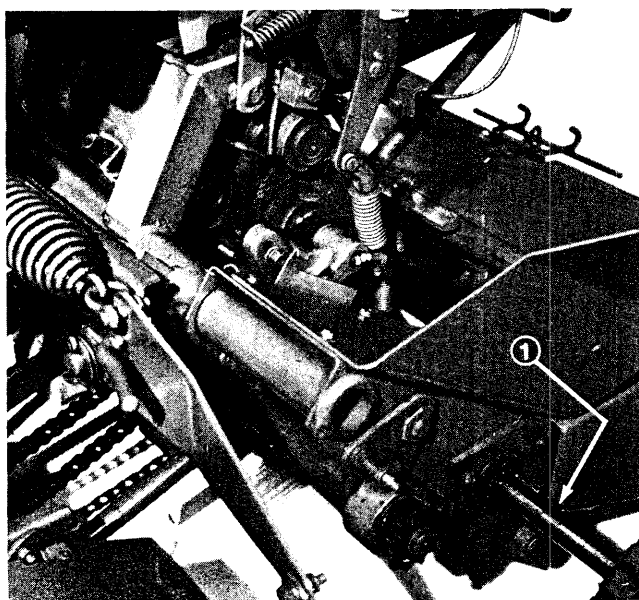
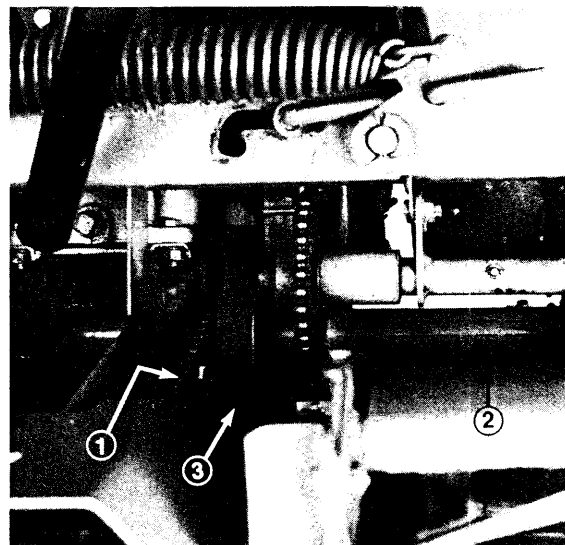

Figure 41
Figure 42
6. Pull left wheel, hub, differential and axle out (Fig. 41). Keep track of spacer washers used at each end of reel drive countershaft so exact quantities are used at each end when unit is re-assembled (Fig. 42).
7. Disconnect front cutting unit drive chain, remove and replace cutting unit drive belt (Fig. 42).